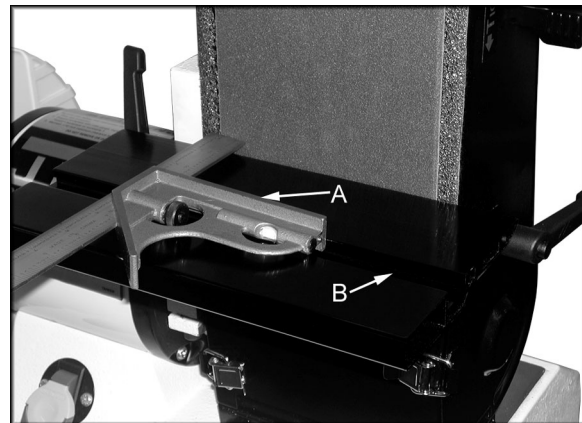

Figure 5
3. Place a combination square (A, Fig. 5) in the miter gauge slot (B, Fig. 5) and check the distance from the slot to the edge of the sanding belt. Slide the square along the slot to the other end of the belt and check the distance. The distances should be equal to ensure that the miter gauge travels parallel to the belt. Loosen the two socket head cap screws at the bottom of the table, which hold the table and left trunnion in place to adjust the distance.